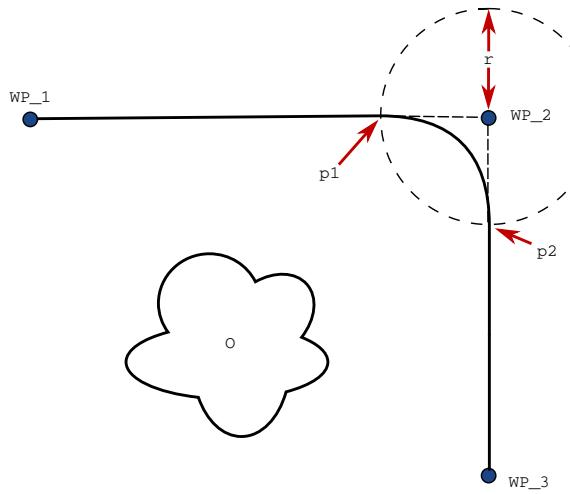

Figure 16.3: Blend over WP\_2 with radius  $r$ , initial blend position at  $p_1$  and final blend position at  $p_2$ . 0 is an obstacle.
**Blend parameters** Apart from the waypoints, multiple parameters will influence the blend trajectory (see figure 16.3):